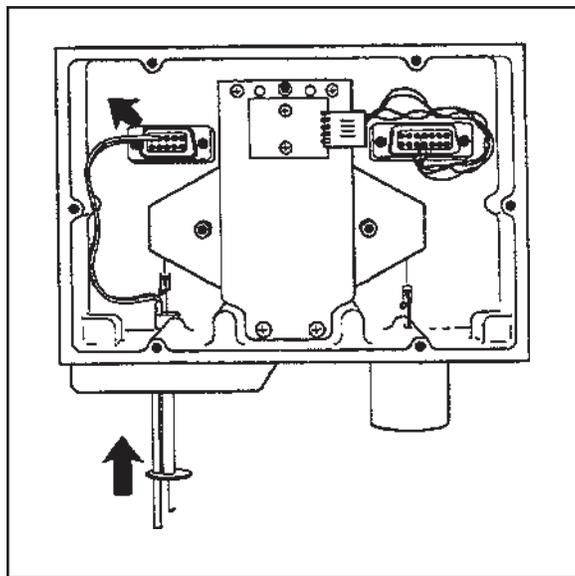

Figure 5.1
4. Push the thermocouple up from the bottom, to feed it back into the balance chamber (Figure 5.1).